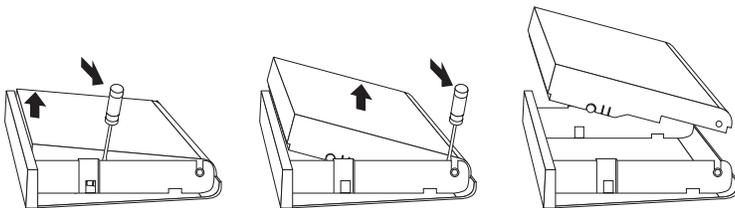

Figure 4-9. Access Station Bottom Cover Removal
- Press in the tabs on the left and right sides of the bottom cover as shown in Figure 4-9.
- Pry out the bottom cover at the pivot as shown in Figure 4-9 and raise upward to release the Access Station from the bottom cover.